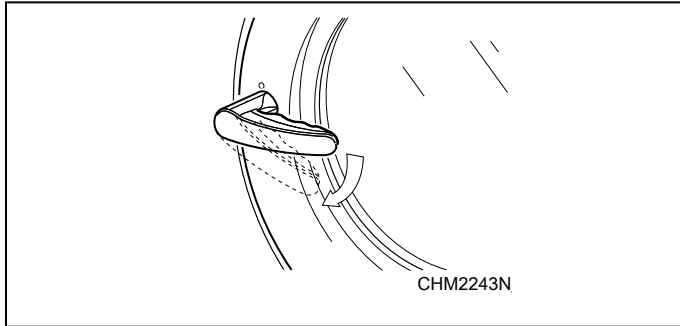

Figure 53
2. Turn handle clockwise to open. Refer to *Figure 53*.